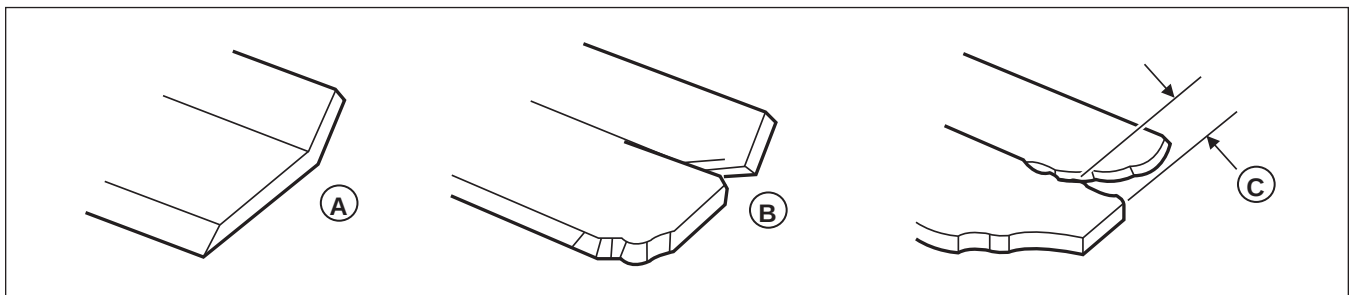

Figure 27. inspecting the Mower Blade Air Lifts
- Has more than .5" (12,7 mm) of the mower blade metal removed from previous sharpening or wear (D, Figure 27).
- The air lifts are excessively eroded (B & C, Figure 27) and the notch (C) is .25" (6,35 mm) deep or greater.